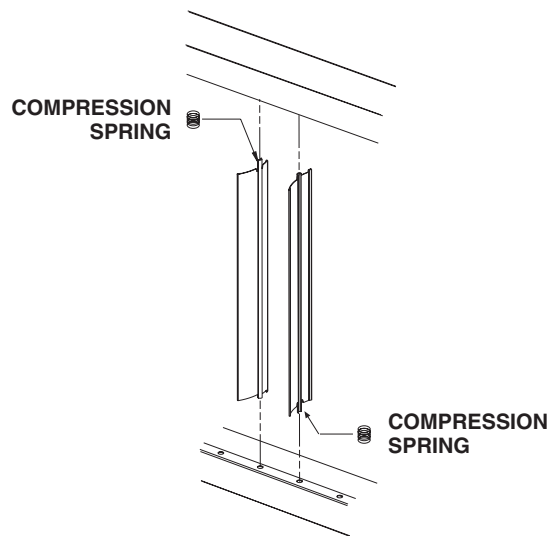

Figure 3. Vertical Louver Installation
- (2) With wider louver blade facing in toward heat exchanger, push tab with louver spring into hole in top or bottom louver frame (see Figure 3)—spring compresses. Insert tab on other end of louver into opposite louver frame. For left airflow, compress spring into top louver frame. For right airflow, compress spring into bottom louver frame.
- (3) Install all remaining louvers in accordance with steps 7a(1) and 7a(2).